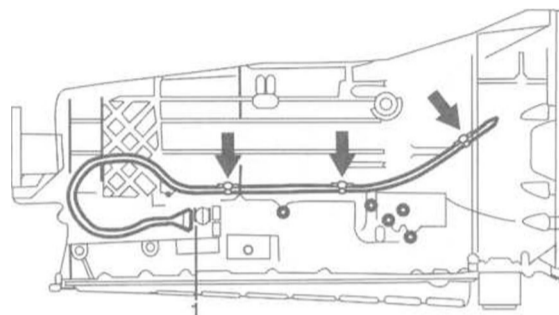

Fig. 14. Disconnect harness connector (1) and remove harness from clips (arrows)
6. Disconnect main harness connector at transmission. Turn connector counter-clockwise and pull straight off. Unclip harness. See Fig. 14.